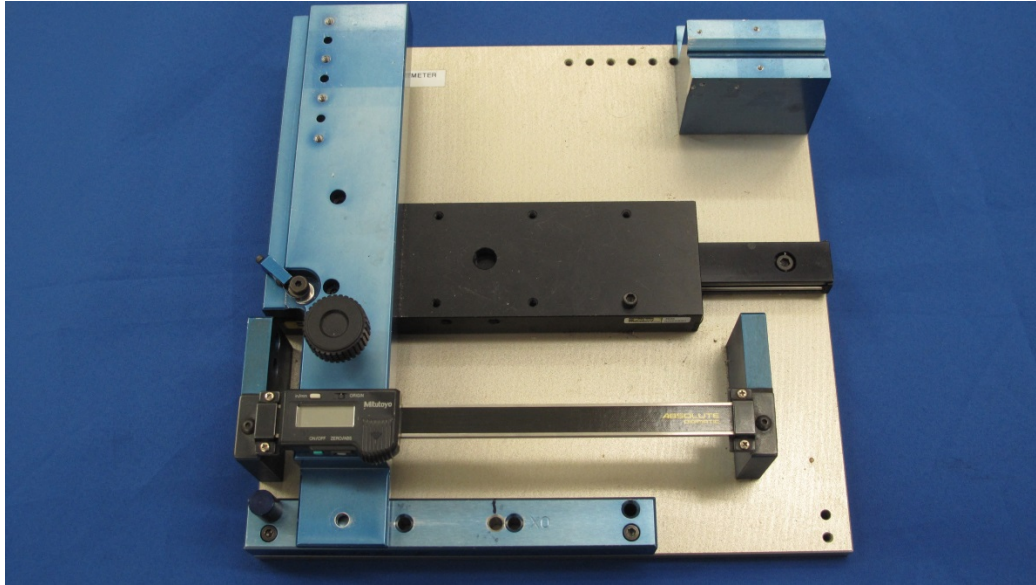

Figure 16-7. IR-TRACC linear displacement calibration fixture
16.2.2.1 Remove the IR-TRACC from the double-gimbaled assembly and install it into a linear displacement calibration fixture DL472-6000 as shown in Figure 16-7.